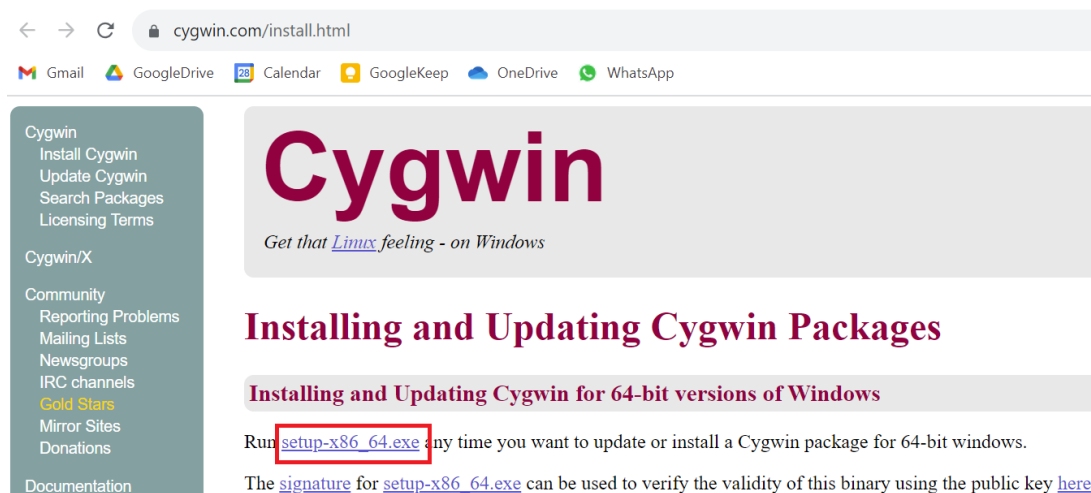

Figure 82. Cygwin installation webpage
1. Navigate to the installation webpage (<https://cygwin.com/install.html>) and download the installation file, called `setup-x86_64.exe` (Figure 82).